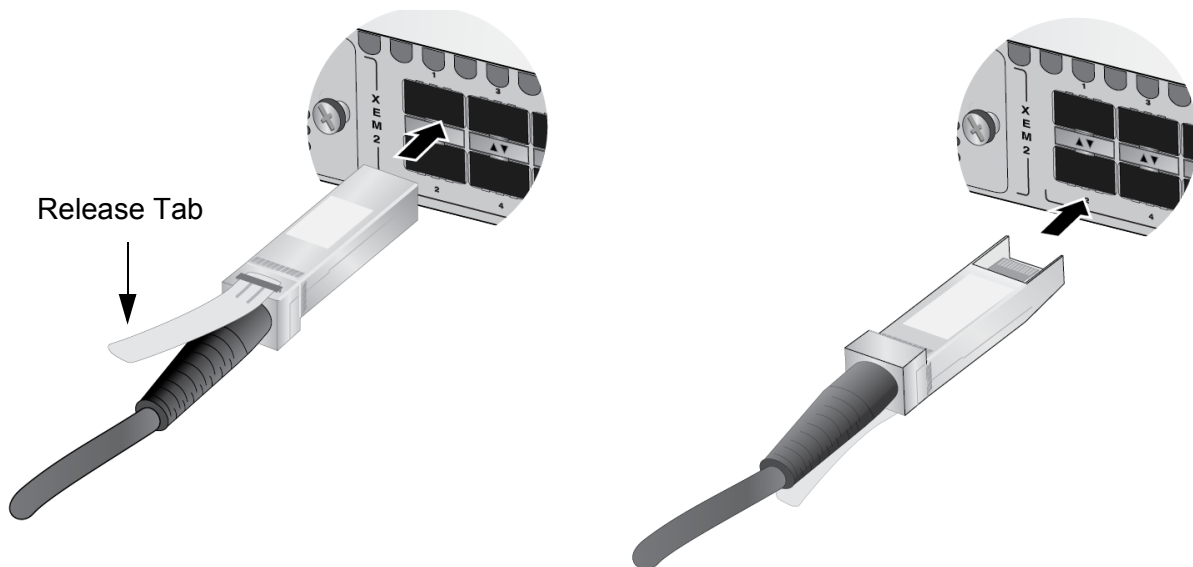

Figure 120. Installing SP10TW Direct Attach Cables
- ❑ Figure 120 shows the orientations for SP10TW direct attach cables installed in base ports 1 to 24 and XEM2-8XSTm and XEM2-12XS Cards.